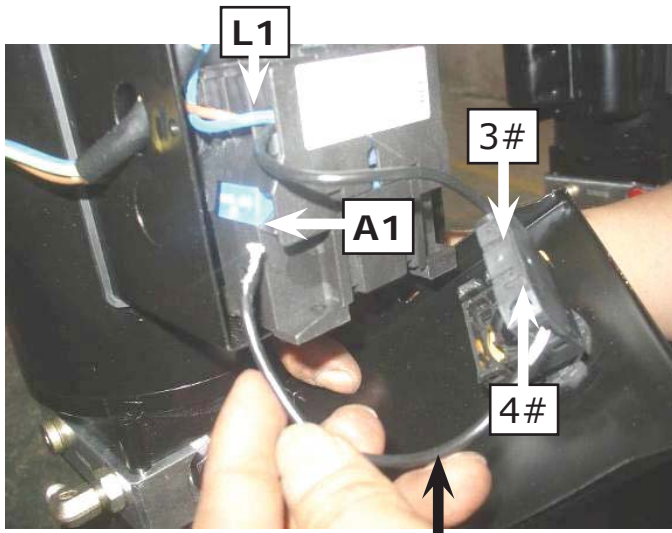
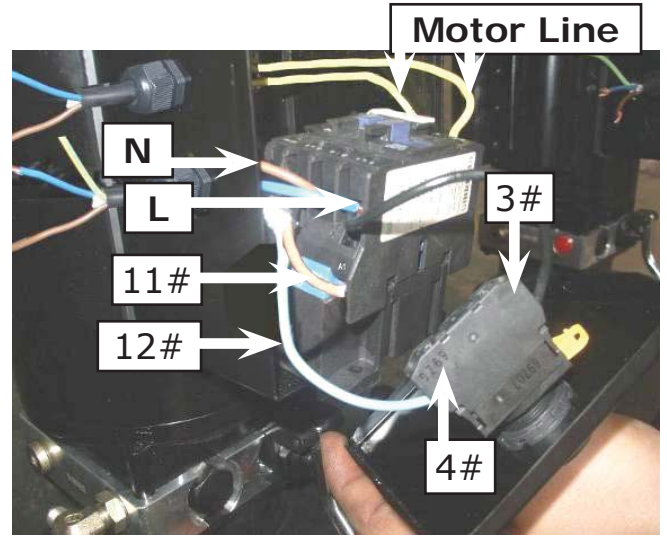

Fig. 35
Fig. 36
4. Connect the Limit Switch: Remove the line of Connecting Terminal 4# of control button and **A1** of AC contactor firstly (See Fig. 35), then connect wire 12# of Limit Switch with Terminal 4# of control button and connect wire 11# with terminals **A1** of AC contactor respectively (See Fig. 36).